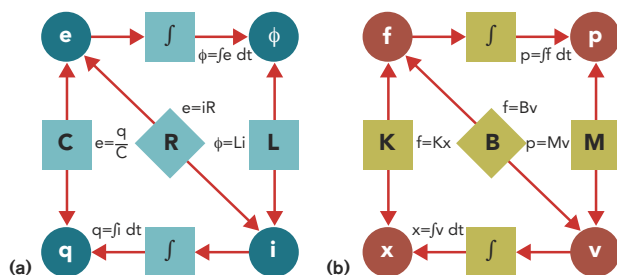

Figure 1 The model structures for electrical systems (a) and mechanical systems (b) display an obvious analogy.
To explore in some depth the nature of physical system analogies, let's use the common electrical-mechanical analogy. These systems are modeled using combinations of pure (only have the characteristic for which they are named) and ideal (linear in behavior) elements: resistor (R), capacitor (C), and inductor (L) for electrical systems, and damper (B), spring (K), and mass (M) for mechanical systems. The variables of interest are voltage (e) and current (i) for electrical systems and force (f) and velocity (v) for mechanical systems. Figure 1 shows the model structures for these systems. The analogy is obvious!